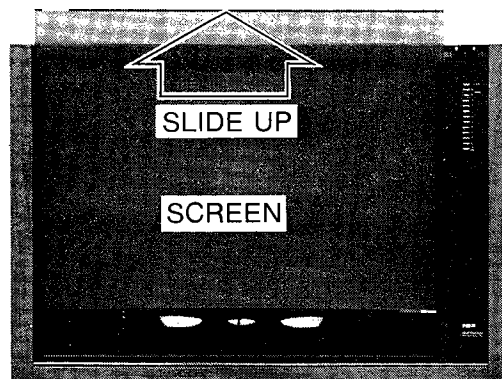

Fig. 12c — Screen Removal
3. Grasp screen at top and lift up to remove screen (Fig. 12c).